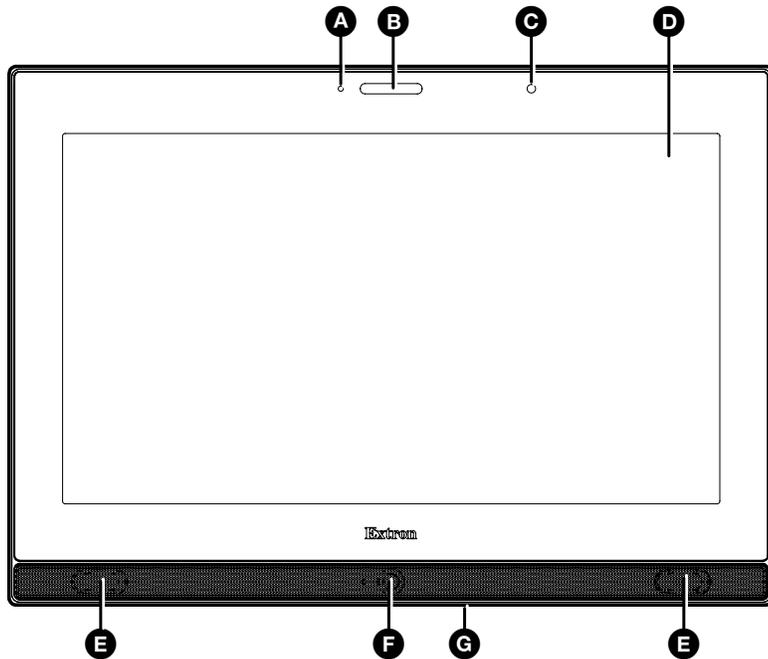
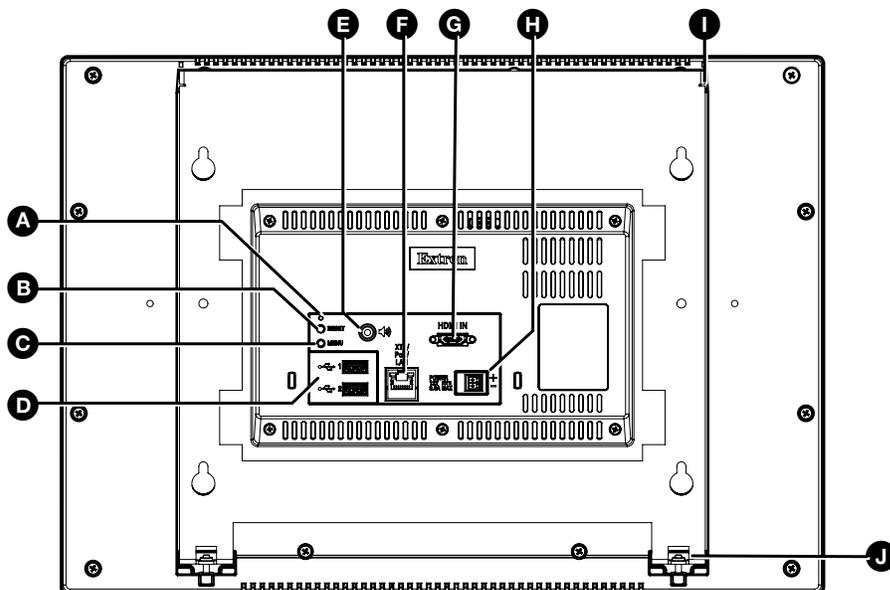

Figure 2. TLP Pro 1720MG Front Panel
Figure 3. TLP Pro 1720MG Rear Panel
5. Insert the two provided Phillips pan head #6-32 x 3/4 inch length screws with washers in the mounting screw slot (see **figure 3**, **J**). Leave a gap for the flange at the bottom of the mounting plate to fit into.
6. Hold the touchpanel at a slight angle and lower the notches at the top of the back panel (See **figure 3**, **I**) over the hooks of the mounting plate.
Figure 2 shows the TLP Pro 1720MG front panel diagram. The TLP Pro 1220MG and TLP Pro 1520MG are very similar.
- **Use factory firmware:** Press and hold the **Reset** button (figure 3, **B**) while applying power to the unit. Use this mode to replace firmware in the event of firmware failure.
- **Reset All IP Settings:** Press and hold the **Reset** button for 6 seconds. After the Reset LED (figure 3, **A**) flashes twice, release and momentarily press the **Reset** button. Use this mode to reset all network settings without affecting user-loaded files.
Press the **Menu** button (figure 2, **G** or figure 3, **C**) to open the setup menu. Select any of the six available screens (**Status**, **Network**, **Display**, **Audio**, **Input** and **Advanced**) by pressing the appropriate button in the navigation bar at the top of the screen (for more information, see the *TLP Pro 1220*, *TLP Pro 1520*, and *TLP Pro 1720 Series User Guide*).